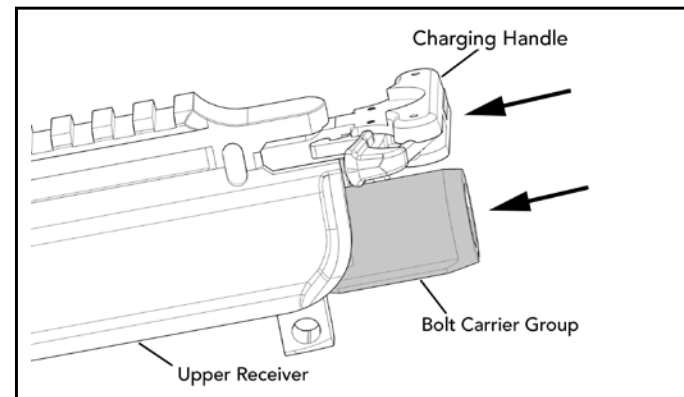

Fig. 50 – Completing installation of the bolt assembly into the upper receiver
- h. Push the charging handle and bolt group completely into the upper receiver until the locking lugs on the bolt head engage the locking on the barrel extension and the latch on the charging handle engages the oval locking surfaces on either the left or right hand sides of the upper receiver (Fig. 50).